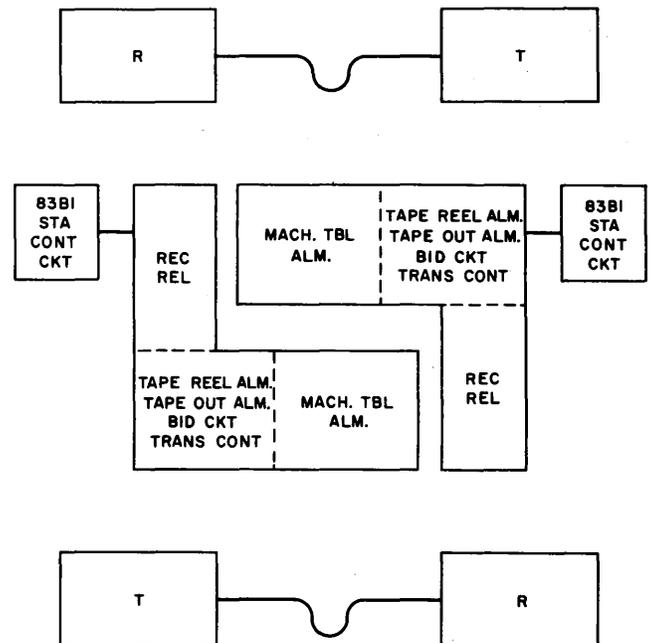

Fig. 1
- 1.04 The circuitry provides for automatic relay at a location common to two 83B1 TTY Selective Calling Systems as shown in Fig. 1.